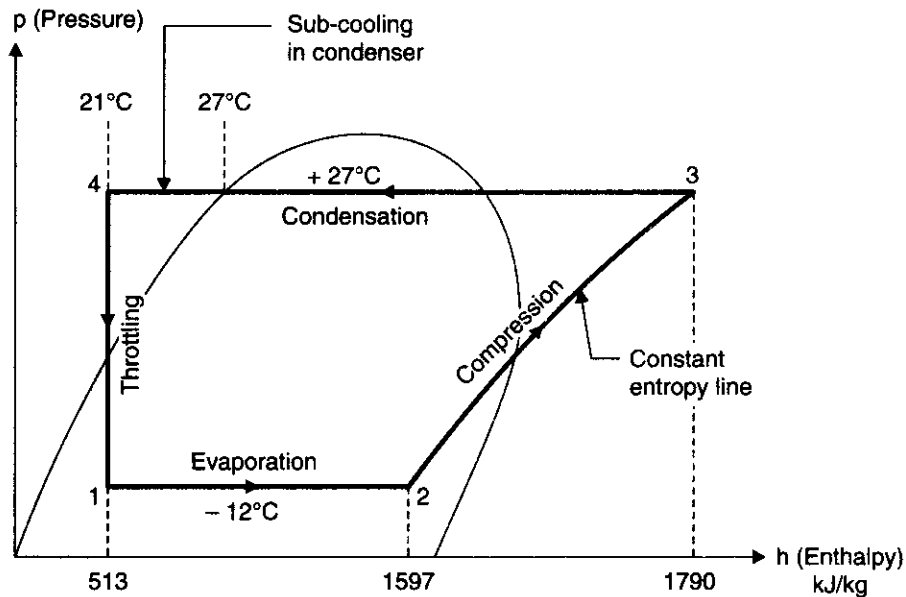

Fig. 14.36
**Solution.** Refer Fig. 14.36.Using  $p$ - $h$  chart for ammonia,